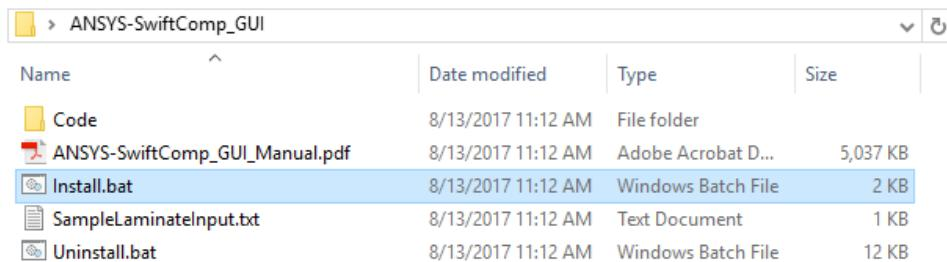

Figure 1.1
**Step 2.** In the unzipped folder, find the windows batch file named *Install.bat*. See Figure 1.1. Right click the file and select *Run as administrator*. The Windows Command Prompt will open. Type the ANSYS version number as three digits. For example, if you have ANSYS 18.0, type 180. Then ANSYS-SwiftComp GUI will be automatically installed in your computer. (Here, it is assumed that your computer has already installed the ANSYS version that you have entered).